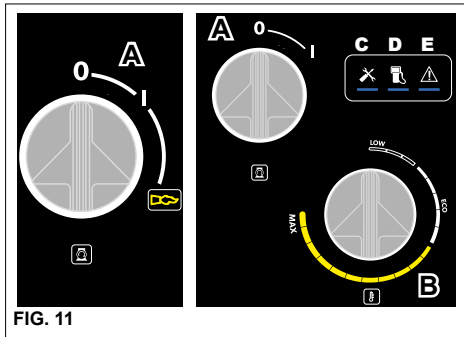

FIG. 11
N.B. To reset the indicators, rotate the main switch "A" to the "0" position and then to the "I" position (fig.11).
During use with hot water, keep away from the openings for fumes discharge (risk of burning). When you have finished using the "Hot Water or Steam Phase", turn the thermostat knob "B" to position '0' (fig.11), allow the appliance to cool down for approx. 3 minutes with the gun open.